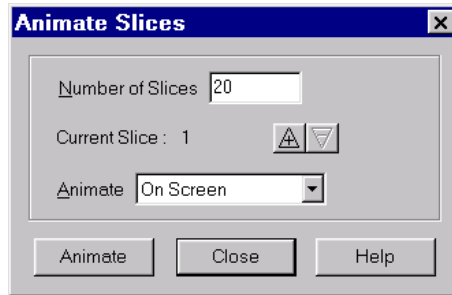

Figure 30-7. The Animate Slices dialog.
Use the Animate Slices dialog to animate a sequence of slices through your data. Use the Slice tool or the 3D Slice Details dialog to configure the start and end slices for your animation. The Animate Slices dialog is shown in Figure 30-7.
2. From the Tools menu, choose Animate, then select Slices. The Animate Slices dialog appears, as shown in Figure 30-7.